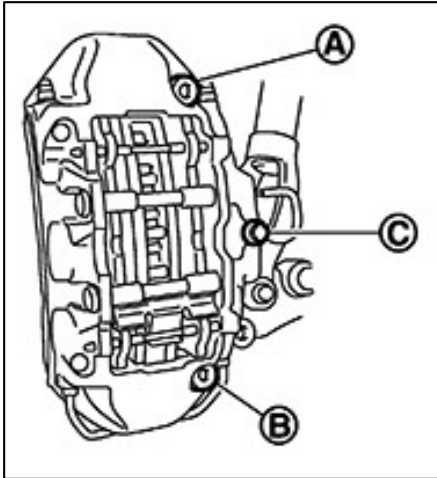
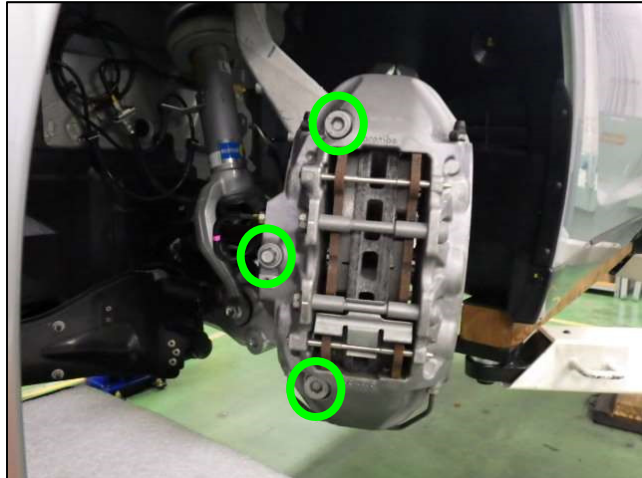

Figure 39
Figure 40
37. Torque the 3 brake caliper mounting bolts in order of (A), (B), and (C) while the brake pedal is depressed (Figure 39 and Figure 40).
- Mounting bolts (A) and (B): 100.0 N·m (10.0 kg-m, **74 ft-lb**)
- Mounting bolt (C): 25.0 N·m (2.6 kg-m, **18 ft-lb**)